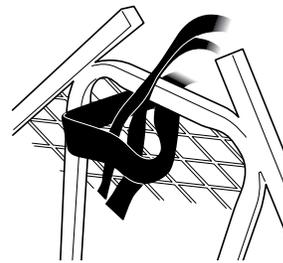
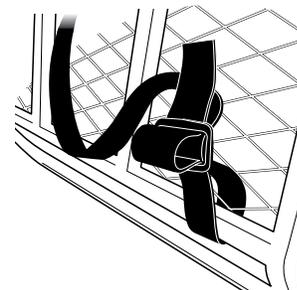

Figure 3A
Figure 3C
3. Attach backpacking straps (48067) at desired location on platform. Fold strap in half. Feed folded strap through platform mesh. Feed the two loose ends of strap through folded loop and pull tight forming a cinch knot. **SEE FIGURES 3A & 3B.** Feed straps through platform mesh and secure with provided tri-slide buckles. **SEE FIGURES 3C.**